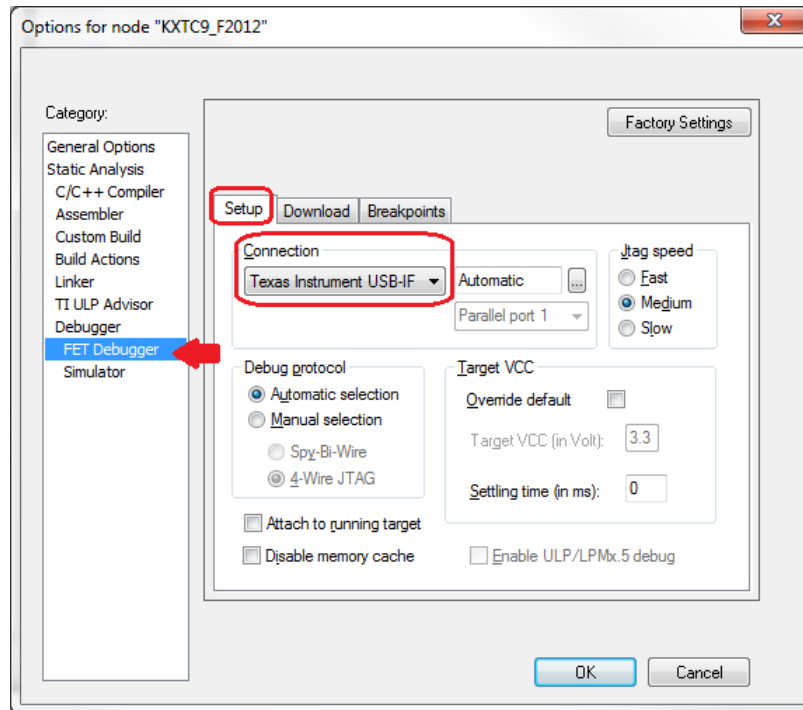

Figure 9: Select Texas Instrument USB-IF Connection Type
6. Still in the Options window, under 'Debugger' category, select 'FET Debugger' sub-category, select 'Setup' tab, and choose 'Texas Instrument USB-IF' in the 'Connection' window to use the USB interface (**Figure 9**).